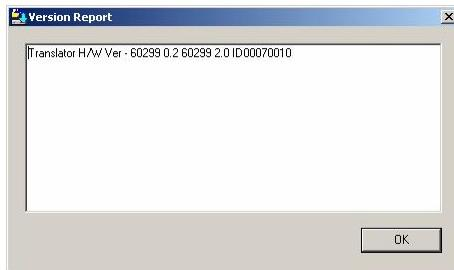

Figure 47 Hardware version report
- Click **H/W Version**. The hardware version of the Translator appears, see Figure 47.